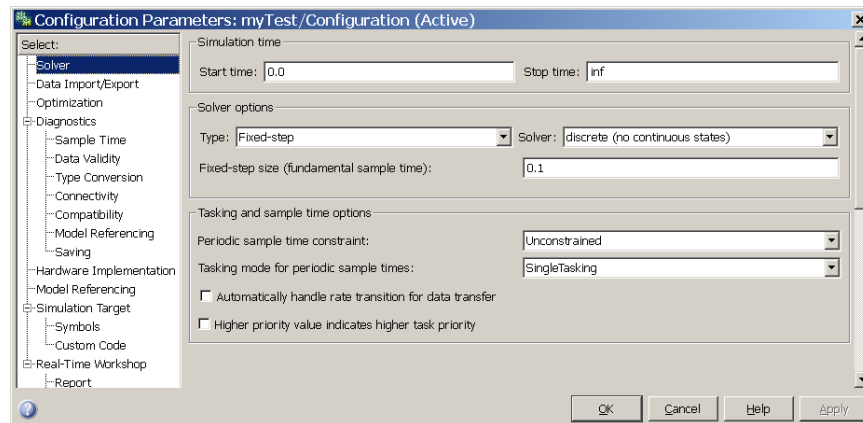

Fig. 7: Configuration parameters, Solver pane
8. Having resolved these issues, the model must be configured for real-time implementation on the NXT brick. Select the **Simulation/ConfigurationParameters** option (or **ctrl+E** short cut), and configure the **Solver** pane as shown in Fig. 7. In particular...